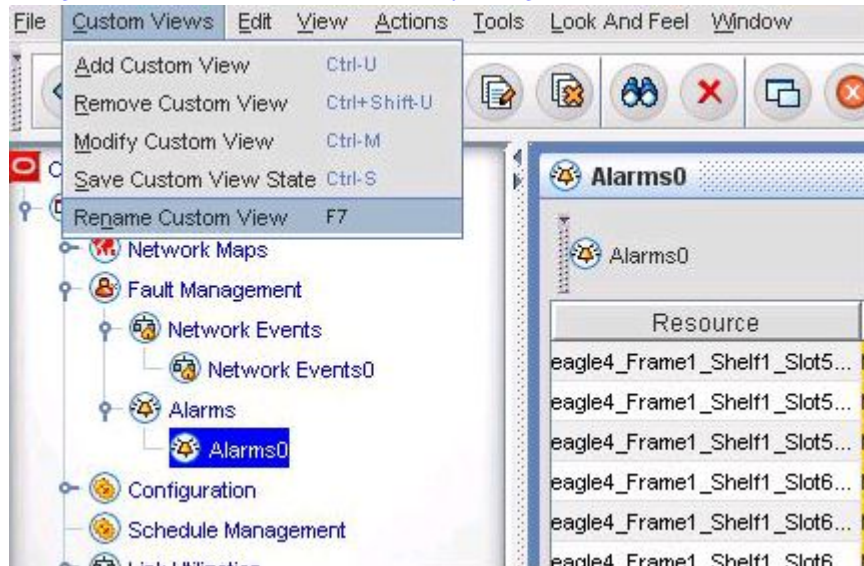

Figure 199: Rename a Custom View By Using Menu Bar
- From the **Custom Views** menu in the top menu bar, choose **Rename Custom View** as shown in Figure 199: Rename a Custom View By Using Menu Bar.